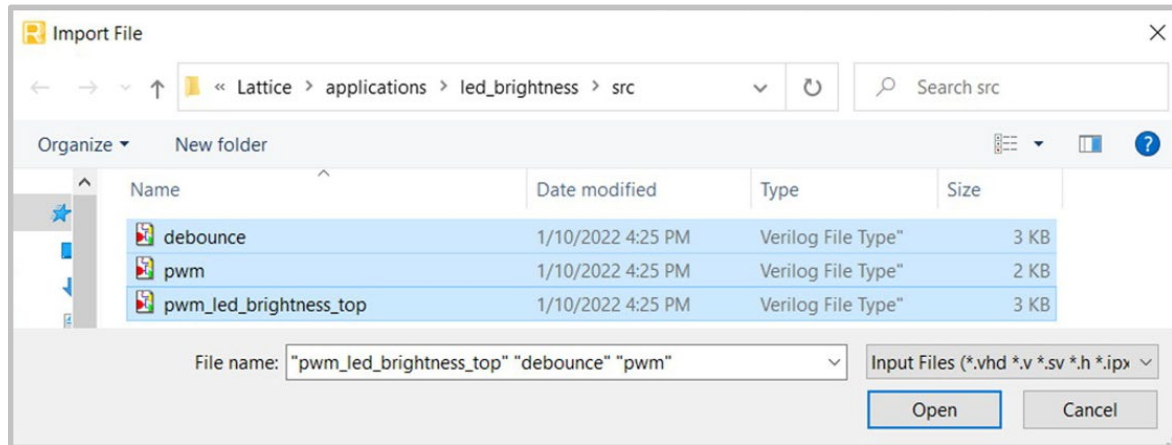
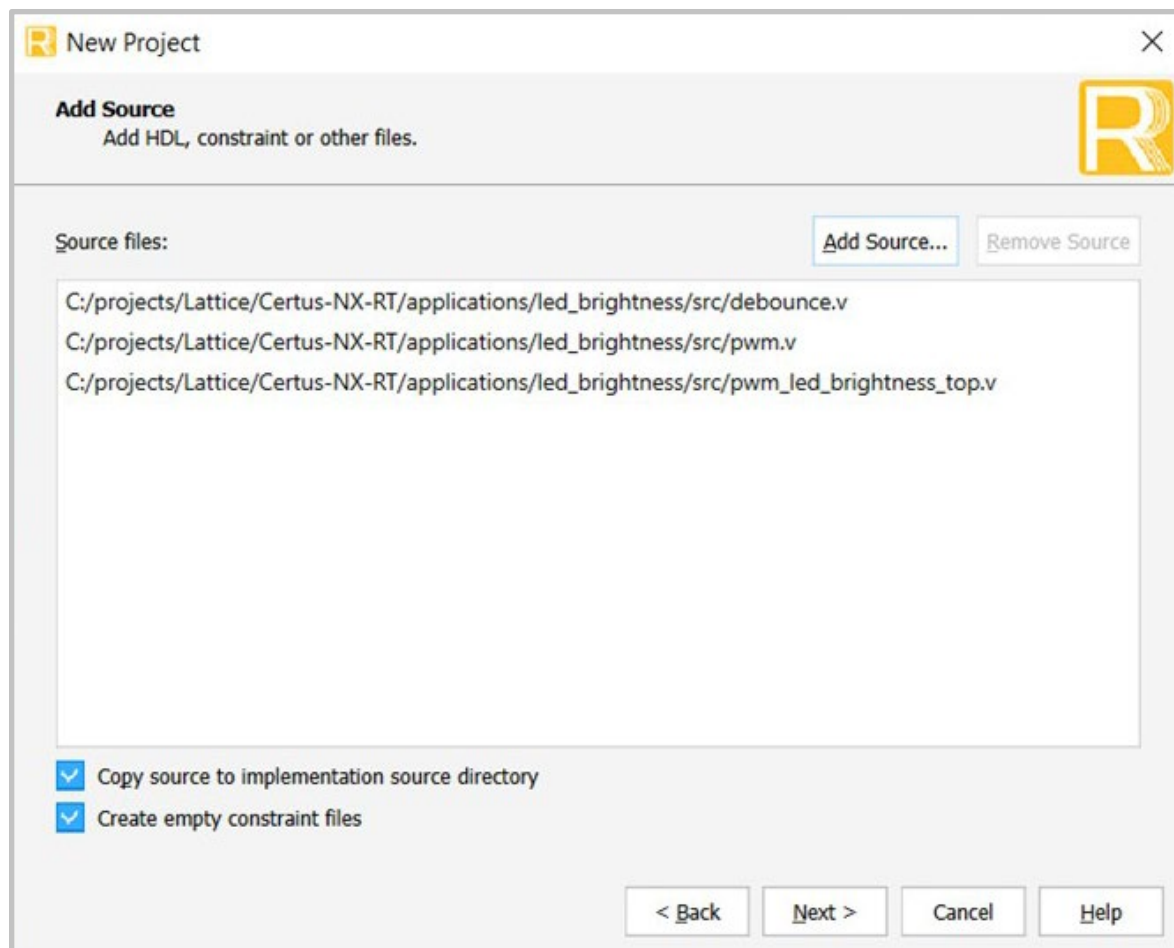

Figure 3: Selecting Sources
Figure 4: Adding Sources
5. Select **Add Source...** and click **Open**, see **Figure 3** and **Figure 4**, click **Next**.